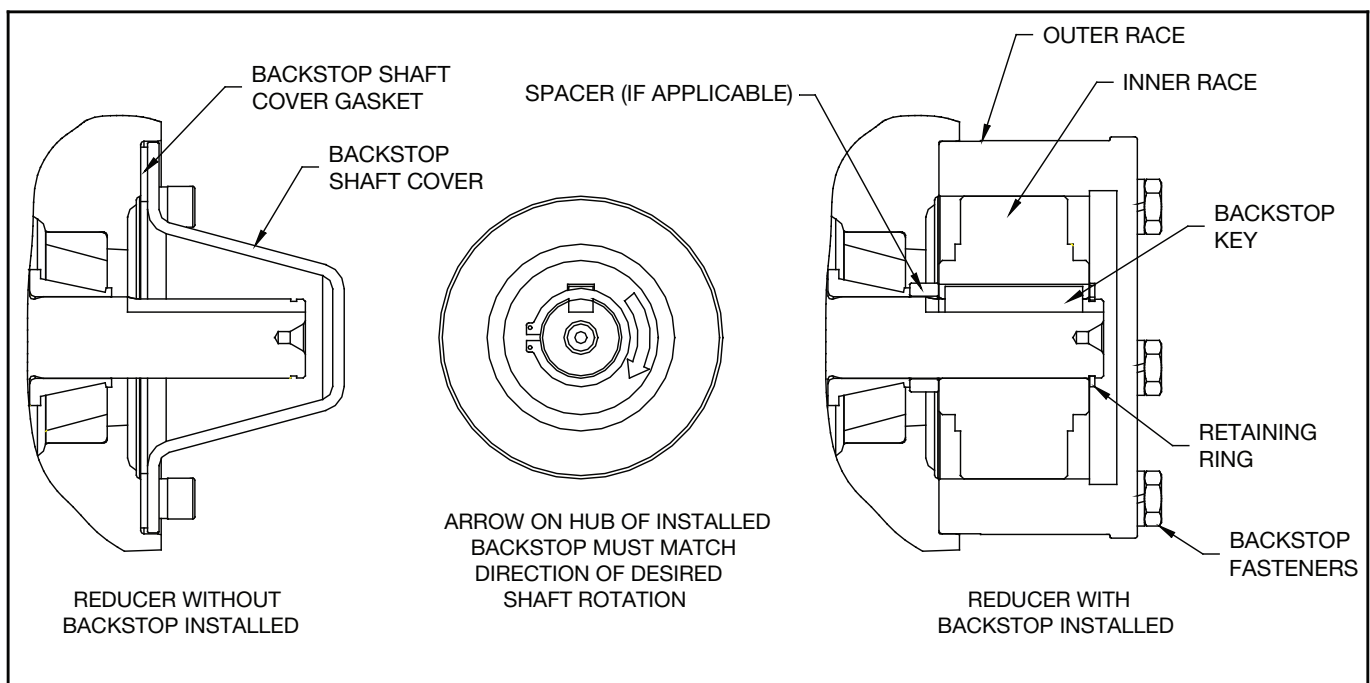

Figure 11 - Backstop Assembly
1. Remove backstop shaft cover and gasket, shown in Figure 11. These parts will not be reused. This cover is directly opposite the extended end of the input shaft.